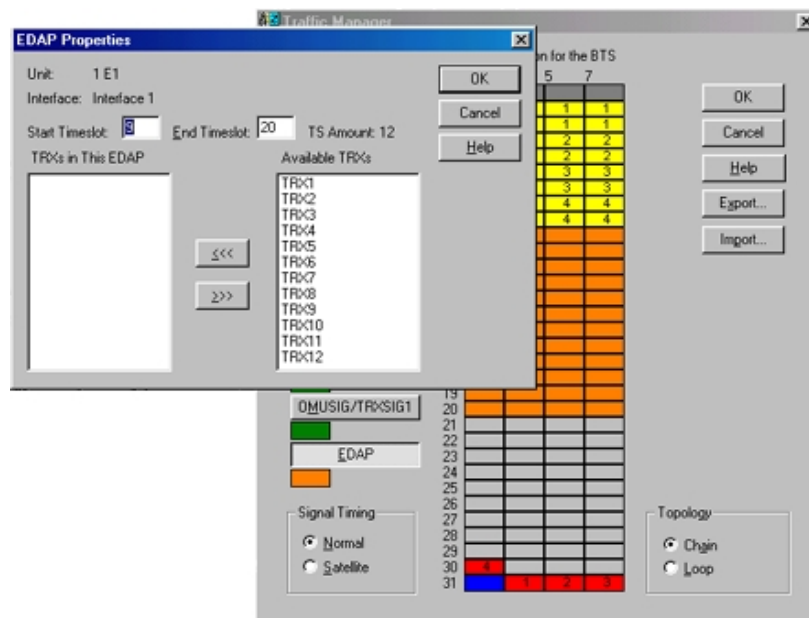

Figure 19. Starting EDAP time-slot selection
2. Select the start time-slot by clicking with the mouse. Drag the mouse to the end time-slot and release. The *EDAP Properties* dialogue box is opened (see Figure 19).